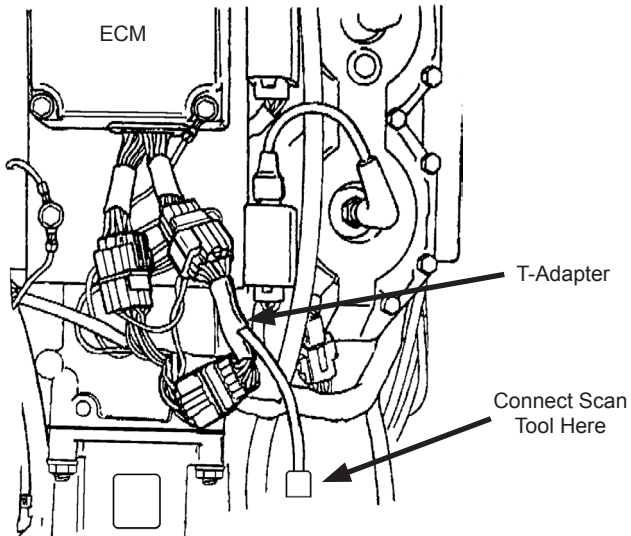

Figure 22 T-Adapter Harness Installation
- 3) Locate the ECM module as shown in Figure 22.